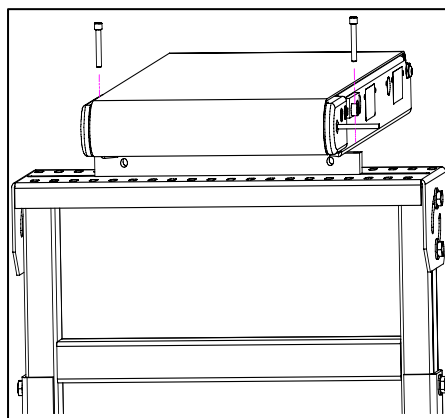

Figure 2
- c. Secure the Bottom Mount to the top plate of the Steel Stand or mounting surface using the 1/4-20 Socket Head Cap Screws, Washers, and Hex Nuts provided (**Figure 2**).